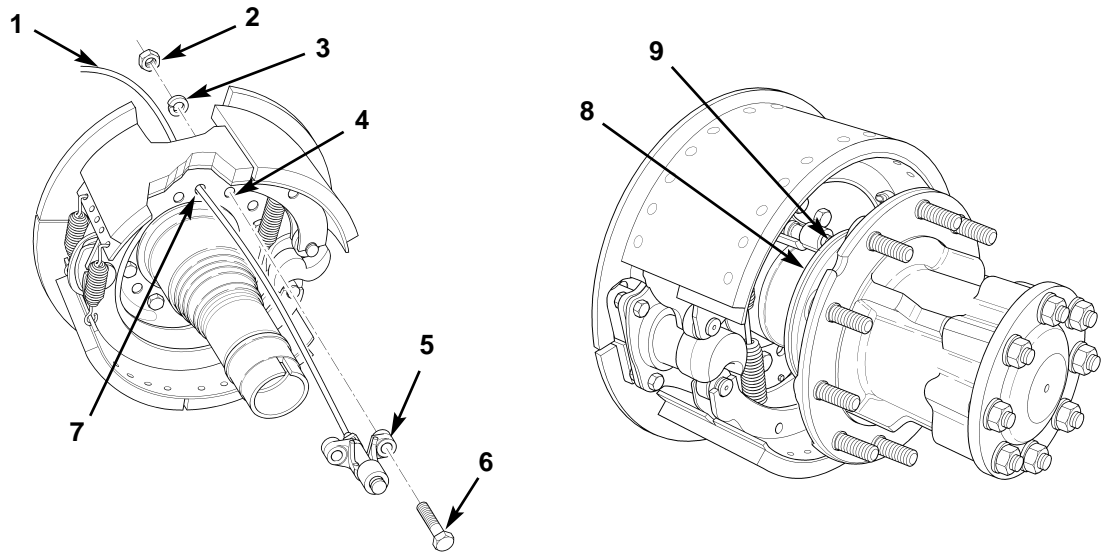

Figure 6. Installing Wheel Sensor and Mounting Bracket on Rear-Rear Axle.
2. Route wheel sensor power cable (figure 6, item 1) through hole (figure 6, item 7) and install mounting bracket (figure 6, item 5) on axle housing and brake spider (figure 6, item 4) with two bolts (figure 6, item 6), washers (figure 6, item 3), and new locknuts (figure 6, item 2).
3. Using screwdriver, push wheel sensor (figure 6, item 9) in until it contacts tone ring (figure 6, item 8).